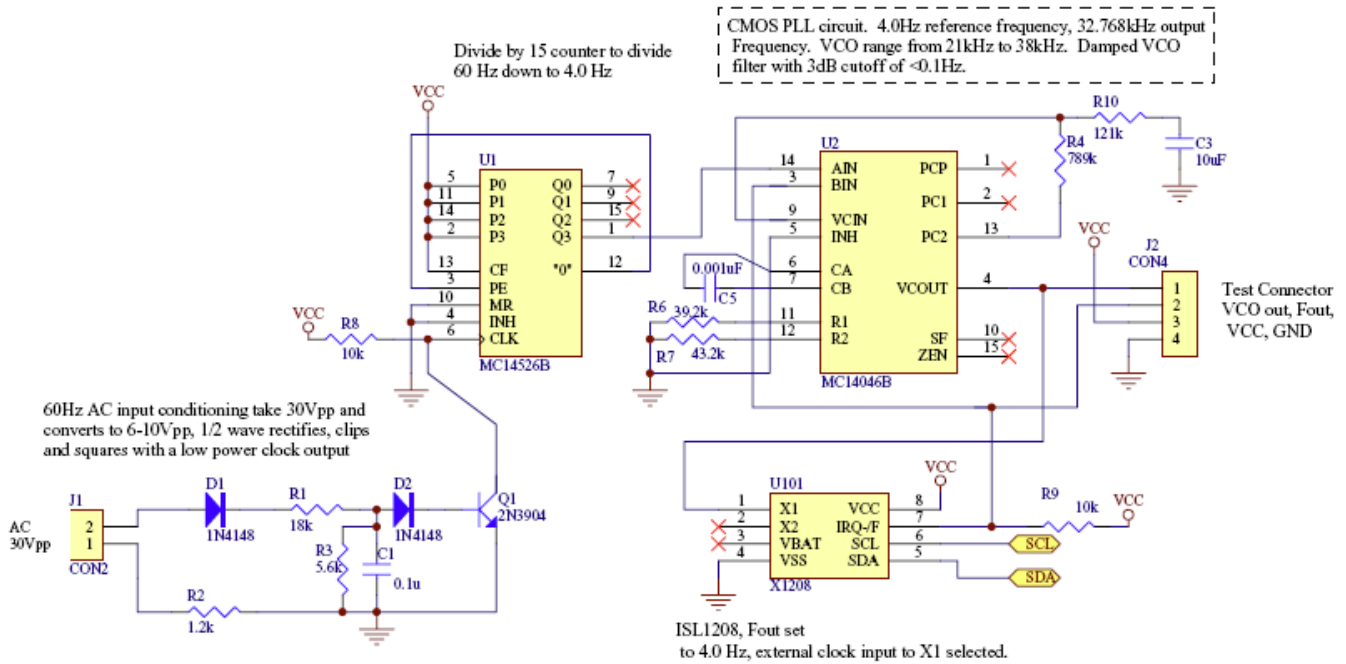

FIGURE 2. 60Hz RTC SCHEMATIC
**Circuit Description (See Figure 2)**